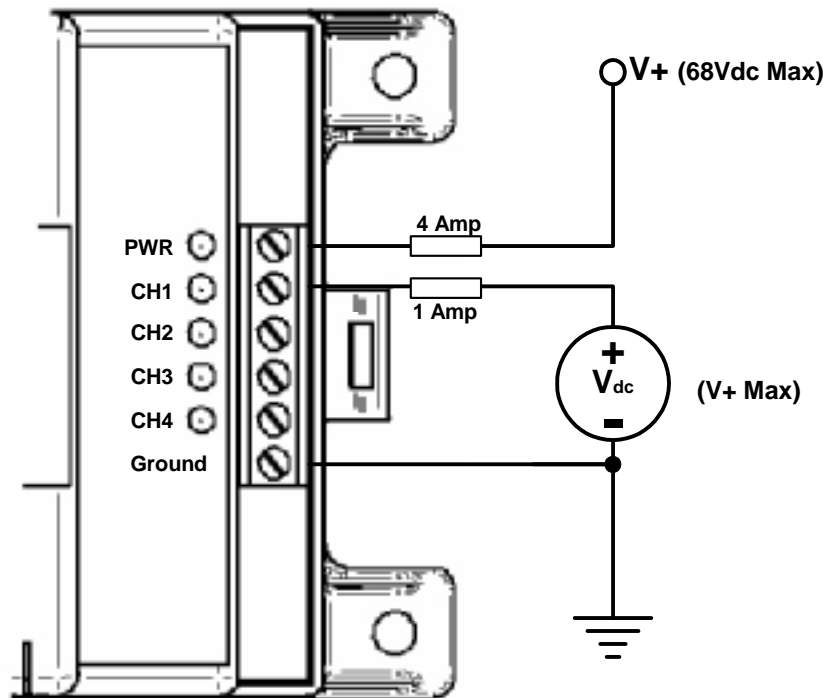

Figure 24. Measuring a voltage
Many Functions require the use of relays. Each relay can be wired as shown in Figure 24. When a channel turns on, it will sink current to ground, activating the relay coil. Multiple relays can be wired to the same channel. Each channel can sink a maximum of 750mA of coil current (*refer to the relay manufacturer's documentation*). Any type of relay can be used including solid-state and MDR's. Relays may be used to switch large currents, combine signals, or inverse a channel output with normally open(NO)/closed(NC) contacts.